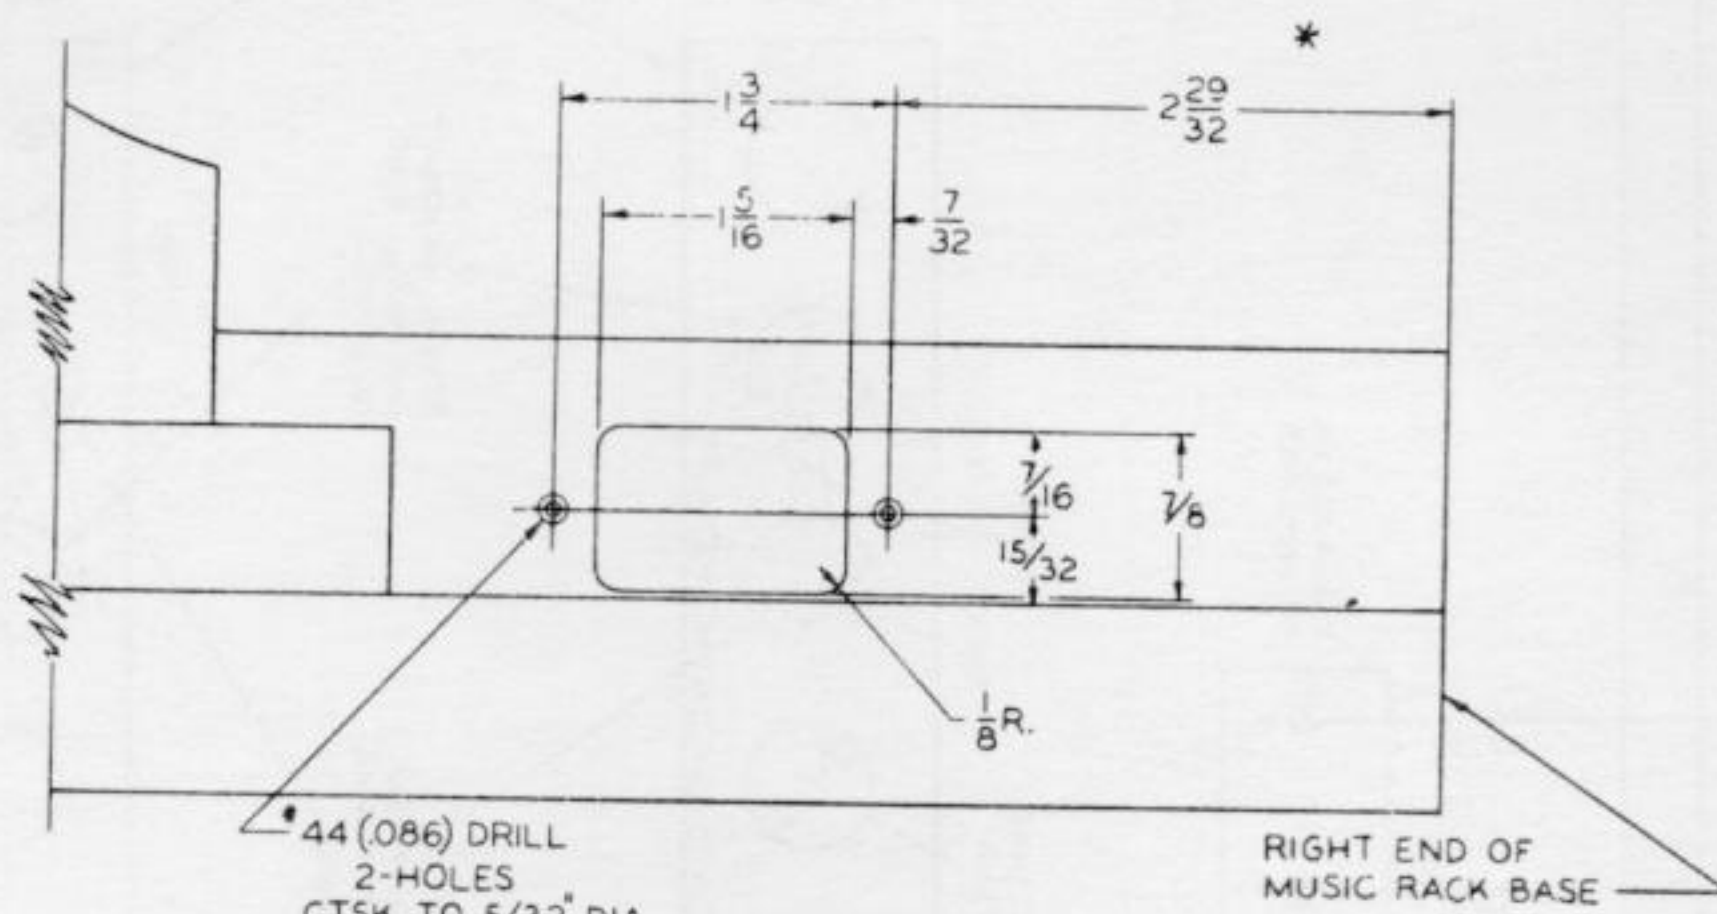

FIGURE 4-HOLES TO BE PROVIDED FOR MOUNTING ECHO SWITCH
2. Drill holes for echo switch in music rack base as shown in figure 4.